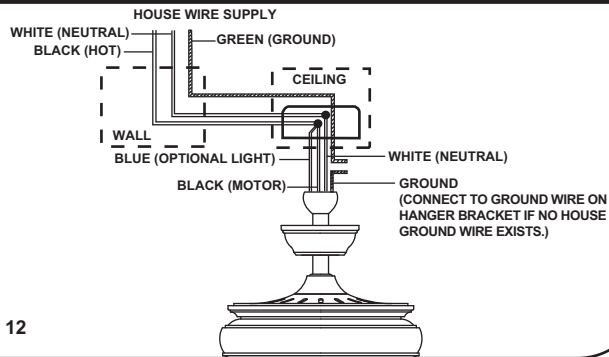

Fig. 12
Step 1. Connect the black (hot) wire from the ceiling to the black and the blue wires from the fan. Connect the white (Neutral) wire from the ceiling to the white wire from the fan. (Fig. 12)